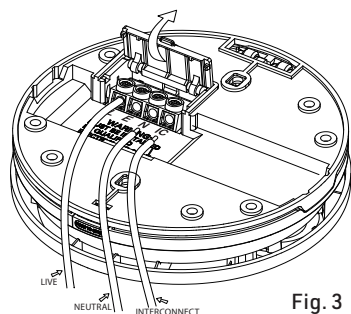

Fig. 3
1. Wire the fitting to the mains using the wiring diagram. [See Fig. 3]